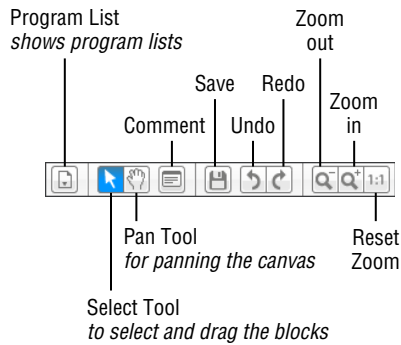

Figure 3-9: Programming toolbar
- **Programming toolbar:** The programming toolbar has useful tools that can help you control and adjust your program. Figure 3-9 shows what each tool does. Note that you should choose the Select tool when you select and move around the programming blocks.